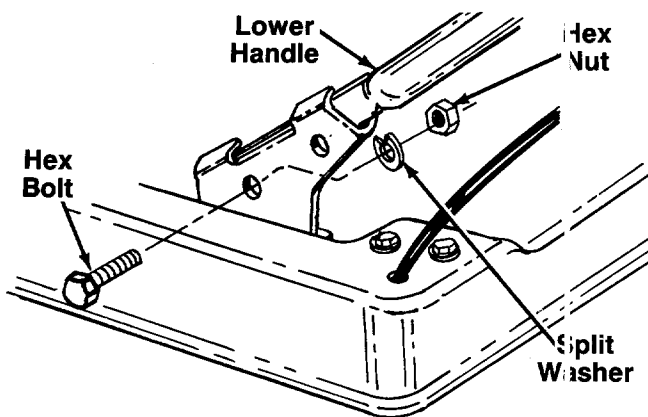

FIGURE 1.
2. Place the end of the lower handle inside the handle mounting brackets on the mower. See figure 1. Make certain the instruction label on the lower handle can be read from the operating position.
3. Secure handle to the handle mounting brackets with hex bolts, split washers and hex nuts. Heads of the hex bolts are on the outside of the handle. See figure 1. Do not tighten at this time.